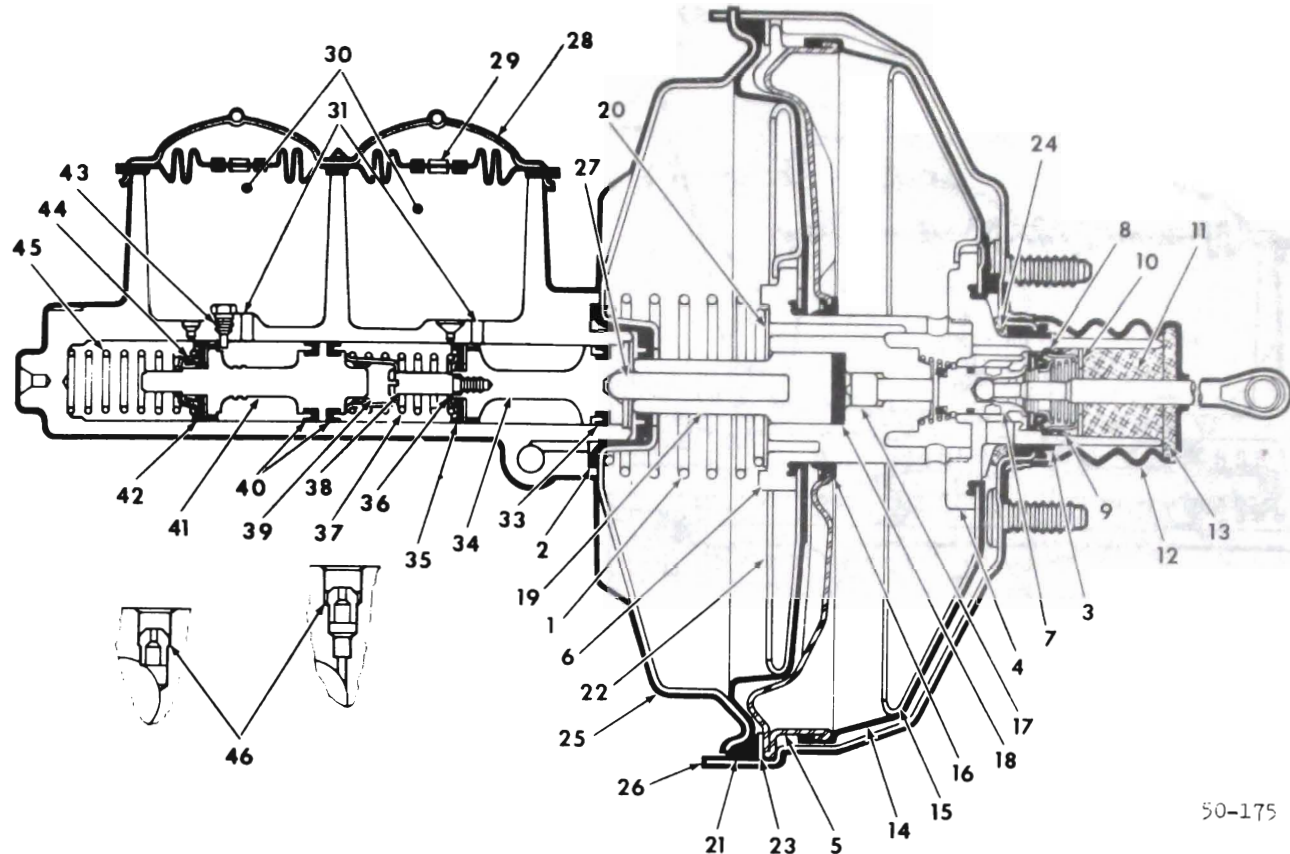

Figure 50-51 Tandem Power Brake Unit
The power heads include a 9-1/2" diameter rear housing (26) and an 8" diameter front housing (25). These housings are locked together by rotating the tangs on the edge of the front housing into slots in the edge of the rear housing. See Figure 50-51.